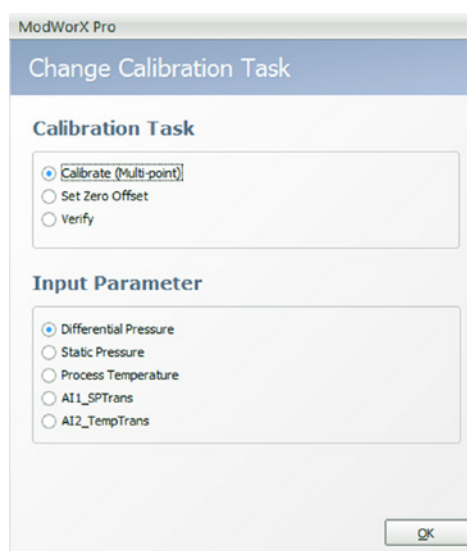

Figure 8.2
The Change Calibration Task dialog will appear (Figure 8.2, page 112). On this screen, the user selects both the calibration task to be performed (calibrate, zero, or verify) and the input parameter to be calibrated (differential pressure, static pressure, or process temperature). If the optional expansion board is installed in a Scanner 2000, or if a Scanner 2200 is installed, the listing of selectable input parameters will include Analog Input 1 and Analog Input 2.
1. On the Change Calibration Task screen, click **Calibrate (Multi-point)** as the Calibration task, and click the input parameter of your choice. For this example, Differential Pressure is the input parameter to be calibrated (Figure 8.2).